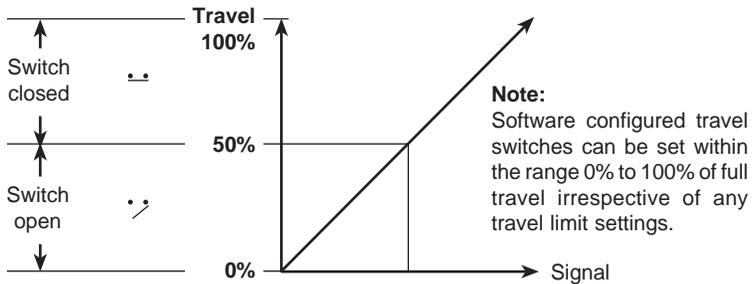

Fig. 52 TS1 Travel switch 1 (normally open)
**TS1 is normally open** and **TS2 is normally closed**. Switching action is set as a % of valve travel (refer to Figs. 52 and 53).
Travel switch 1 (**TS1**) is normally open. External wiring should be made between terminals 1 (+) and 2 (-). The value set is a % of valve travel. At the set value the switch will close. If the options PCB is fitted and the slide switch **SW1** set to position 'A' the status of the switch will be shown on the LCD (refer to Figure 52).